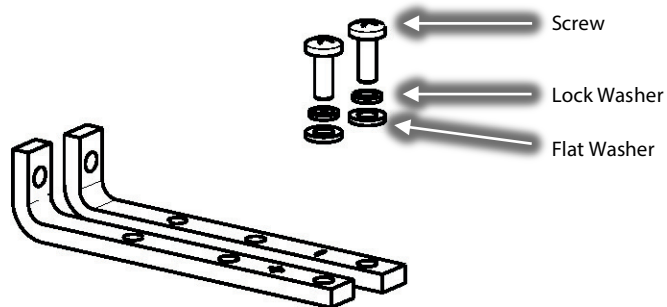

Figure 9 – Bus Bar Fasteners
8. Using a screw driver, install the bus bars into place using six (6) flat washers, lock washers, and screws. Torque the screws to 6 Nm (53 in.lb). Refer to Figure 9 (Bus Bar Fasteners).